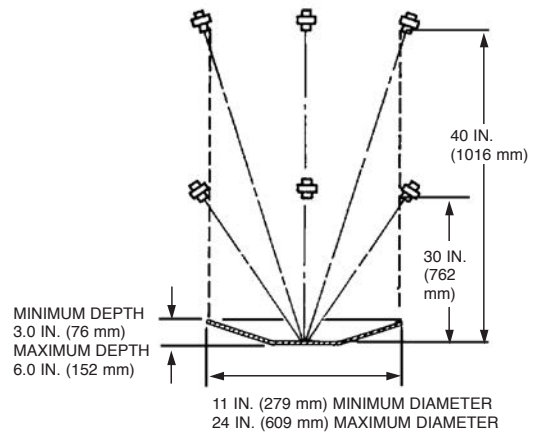

FIGURE 4-65
2. A 1N nozzle will protect a wok 11 in. (279 mm) minimum diameter up to 24 in. (609 mm) maximum diameter. The wok depth must be no less than 3 in. (76 mm) and no greater than 6 in. (152 mm). The nozzle is stamped with 1N indicating that this is a one-flow nozzle and must be counted as one flow number. When using this nozzle, the nozzle must be positioned anywhere along or within the perimeter of the wok, aimed at the center, 30 in. to 40 in. (762 mm to 1016 mm) above the hazard surface, as shown in Figure 4-65.